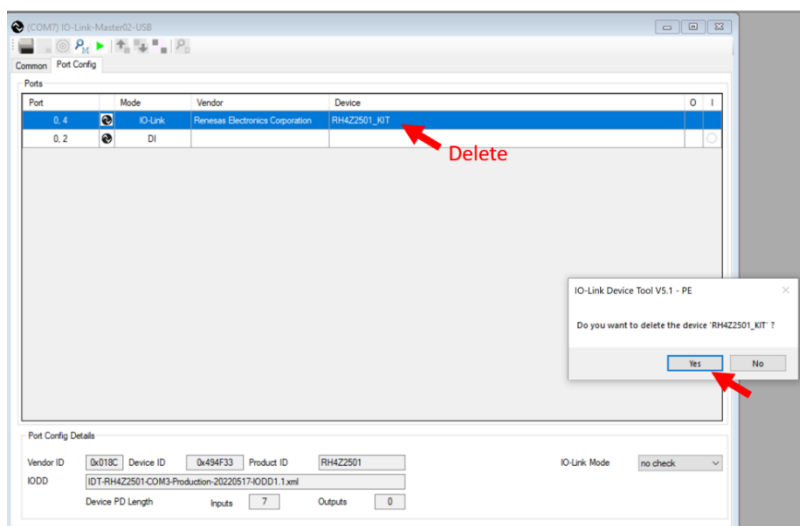

Figure 11. Deleting IODD Files
- c. Delete old IODD by “right click->delete” and clicking “Yes” in the pop-up confirmation window (see Figure 11).